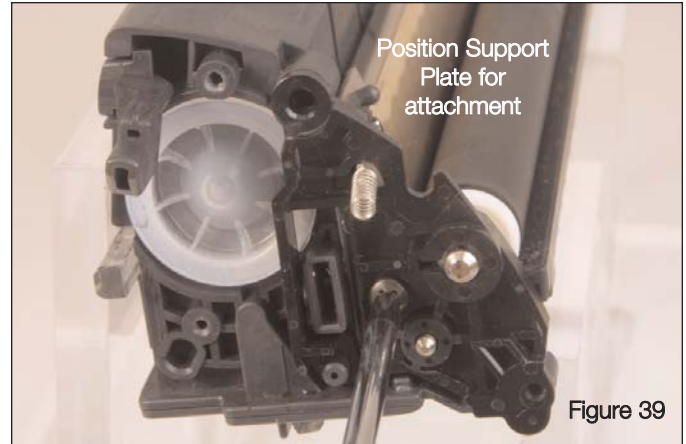

Figure 39
- e. Position the Contact Side Support Plate as shown in Figure 39.